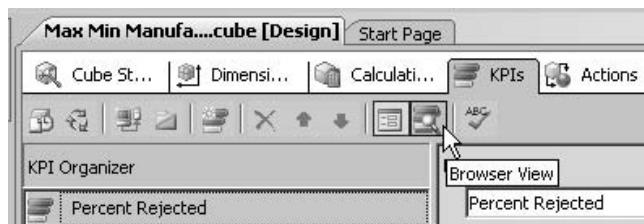

Figure 10-22 The Browser View toolbar button
13. When the Deployment Completed Successfully message appears in the Deployment Progress window, click the Browser View button on the KPIs tab toolbar, as shown in Figure 10-22. The KPI browser appears.